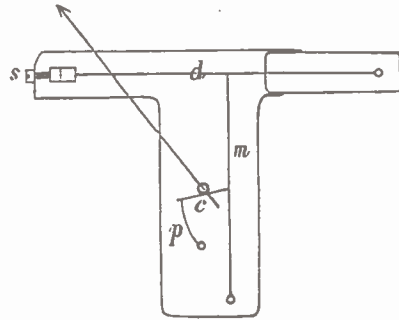

Fig. 136.
b. In Fig. 136 we have a platinum-silver wire, d, No. 43 B. & S., about 6.3 inches long, having a resistance of about 14.5 Ohms. This wire is fastened rigidly at its two ends, and the small adjust-